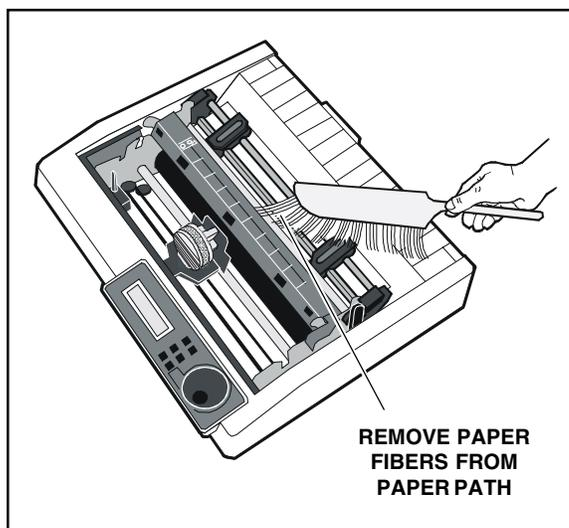

Figure 5-5. Cleaning the Printer Interior
4. Remove the printer window. Use a soft brush or vacuum to remove all paper fibers, dust and foreign matter from inside the printer, as shown in figure 5-5. Then, replace the printer window.